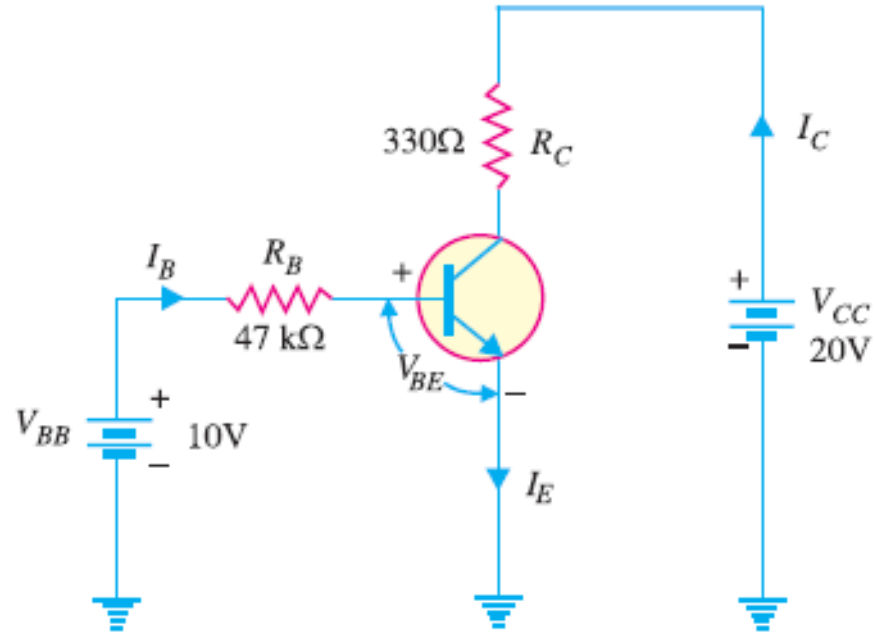

Fig. 16
- Determine the Q point of the transistor circuit shown in Fig. 16. Also draw the d.c. load line. Given $\beta = 200$ and $V_{BE} = 0.7V$.
The presence of resistor R_B in the base circuit should not disturb you because we can apply Kirchhoff's voltage law to find the value of I_B and hence $I_C (= \beta I_B)$. Referring to Fig. 16 and applying Kirchhoff's voltage law to base-emitter loop, we have,